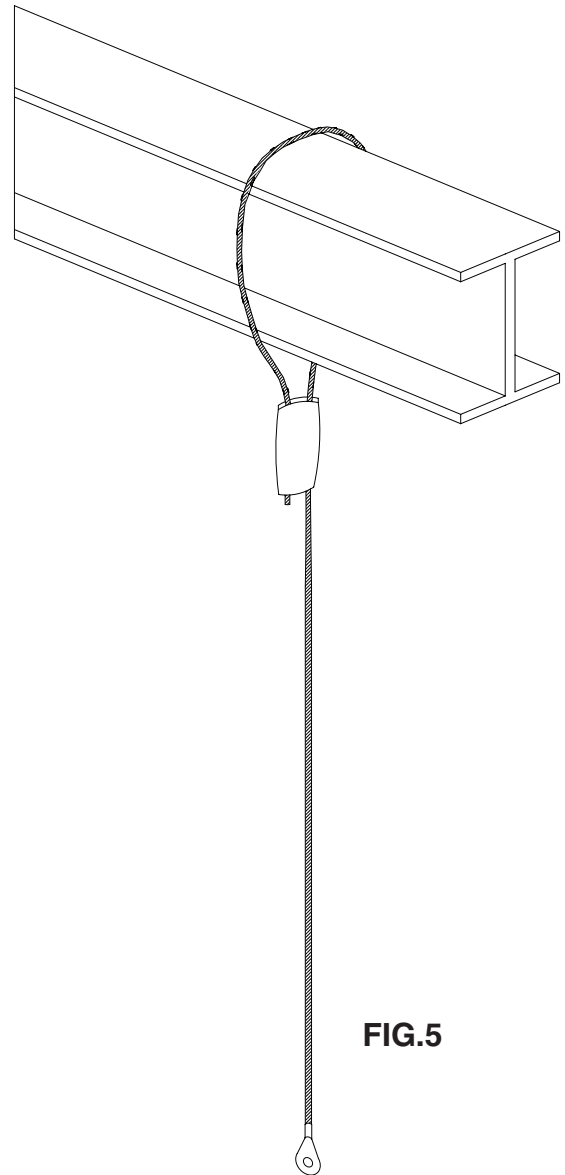

FIG.5
4. Adjust the cable length in the clamp so that the eyelet end of the cable is at the final height above the floor. (Fig 5)